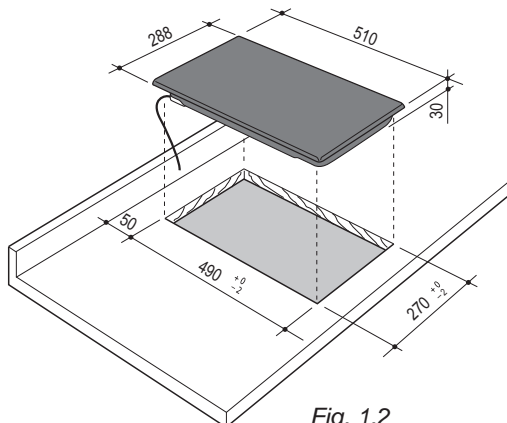

Fig. 1.2
In order to install the cooker top into the kitchen fixture, a hole with the dimensions shown in fig. 1.2 has to be made, bearing in mind the following:
- The hob must be installed at least 50 mm from the wall (from rear edge of cutout - fig. 1.2).